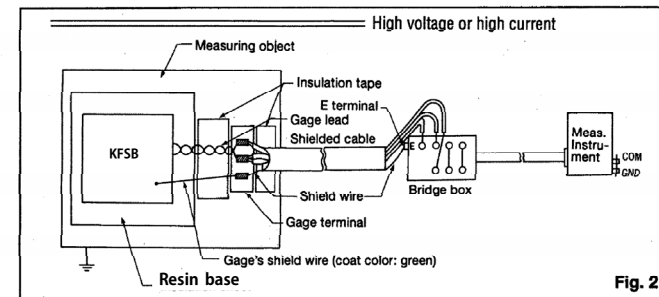

Fig. 2
- (1) Perform the same connection as in the above 4.1 item except grounding of the measuring system.
- (2) Ground the measuring system as illustrated by Fig.2 or 3.
- (3) About whether or not the COM terminal and the GND terminal on the measuring instrument should be short-circuited, check in advance to see if short-circuiting leads to lesser noise, then decide on it.
- ☞ Disconnect the GND terminal of the measuring instrument from the ground. (Fig.2)